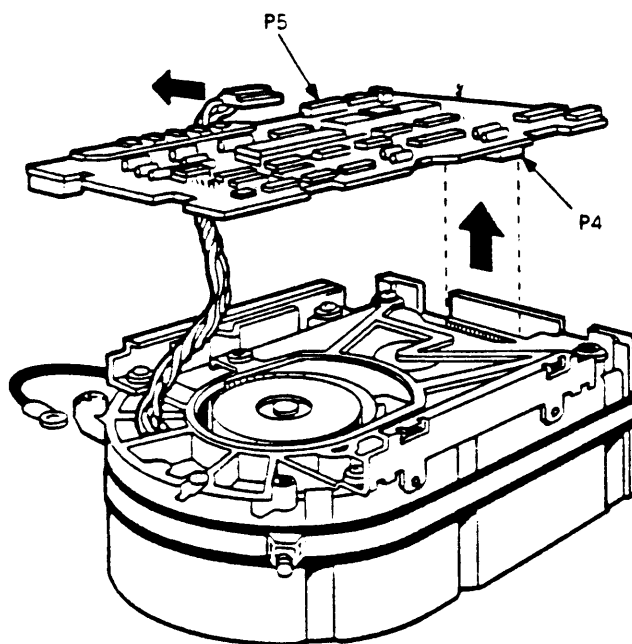

Figure 8-15 Remove the MPCB
6. Lift the MPCB straight up until it clears the chassis. This disconnects P4, a 12 pin fixed plug (Figure 8-15).